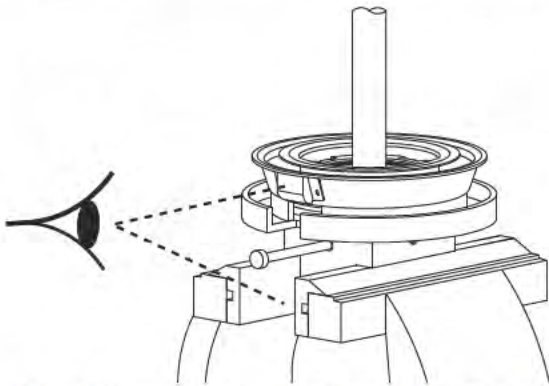

Fig. 12 Placing the shaft and inlet part in the holder
2. Place the shaft and inlet part (pos. 44) in the holder according to fig. 12. Make sure that the inlet part engages with the holder.